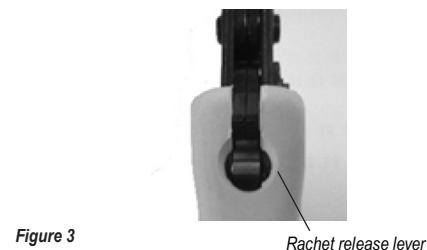

Figure 3
6. Holding the wire in place, close the tool past the ratchet release position and allow the jaws to open. A ratchet release lever is provided to allow removal of an incorrectly placed or oversized contact (See Figure 3).